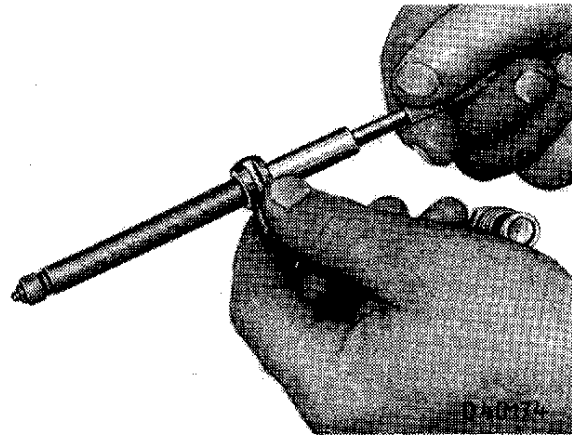
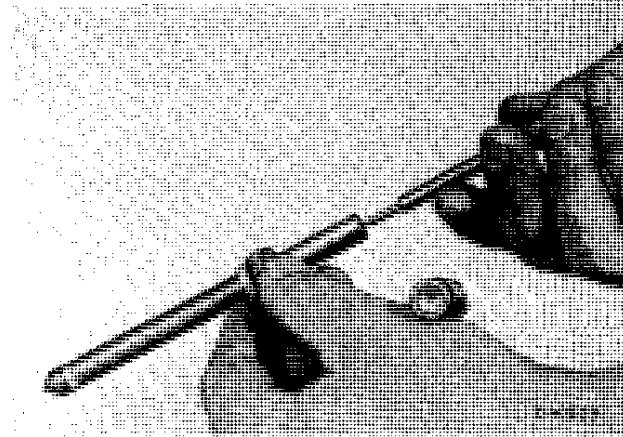

Fig. 9 — Removal of Nozzle Needle Using Special Tool No. 16481
Fig. 14 — Polishing Valve Guide Area
If the nozzle needle does not slide freely from the nozzle body when the injection nozzle has been turned over, use special tool No. 16481 as shown in fig. 9. Should the needle no longer be in its deepest position in the nozzle body, first push it completely into the nozzle body with the aid of the special tool (clamp holder) to avoid bending the needle when the tool is applied. Turn the nut clockwise, slide the tool as far as possible onto the needle so that the gripping device gets a hold of it, then turn the knurled nut to the left to secure the nozzle needle. Remove the needle from the nozzle body by carefully pulling the tool.
2. Insert needle into the body. When the long part of the needle slides through the nozzle valve guide, it might rub a little. However, this will not affect the correct operation of the nozzle. Hold the needle with special tool No. 16481 (see fig. 9) and rotate it in the nozzle body by turning the tool by hand. After every three or four turns raise the tool and the needle a little (see fig. 14). This lapping may be completed after 10 to 20 turns.
If it is evident that the leakage from the nozzle is not due to the above defects, examine the surface of the needle for fine scratches or damage. If evident, they may be removed by using No. 16489 special polishing compound provided in the tool kit. Apply a small amount of No. 16489 special paste to the tip (seat) of the nozzle needle and insert the needle into the body. Fix special tool No. 16481 to the needle (see fig. 9) and lap the needle by hand with a rotary movement of the tool. A very slight polishing (three to five turns by hand) is enough to lap the seat surface.